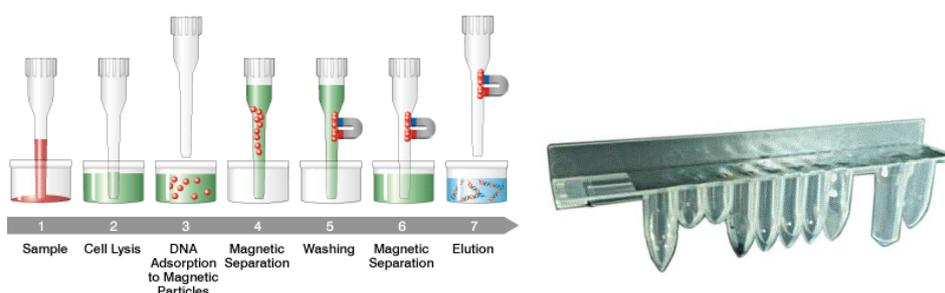

Figure 1.3: Nucleic acid extraction principle and ELITE InGenius SP 200 extraction cassette
- Universal cassette suitable for human, bacterial DNA and viral genomic DNA/RNA which has been validated on a range of sample matrices (Figure 1-3)